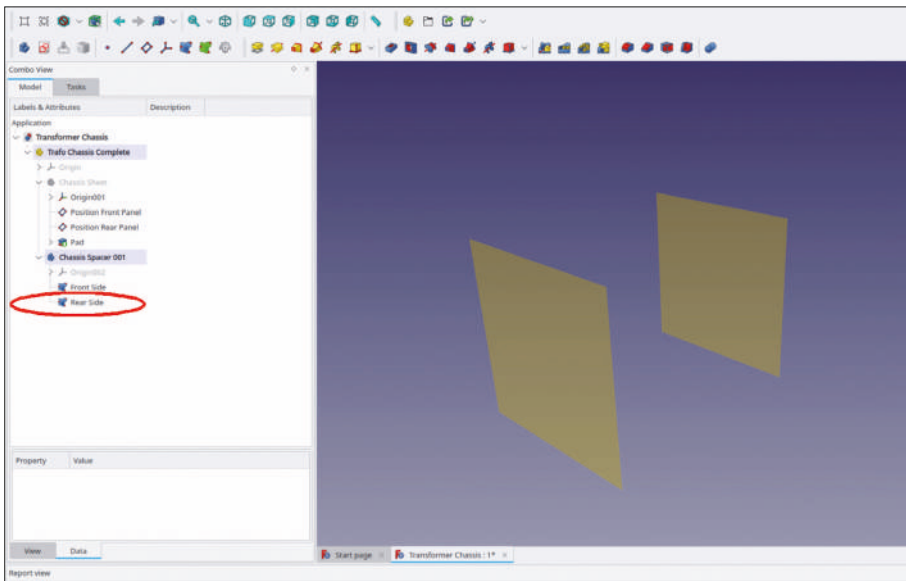

Figure 9-56
20. Rename the new shape binder to 'Front Side'. In the same way, create a shape binder for the rear datum plane and rename it to 'Rear Side' (Figure 9-56).